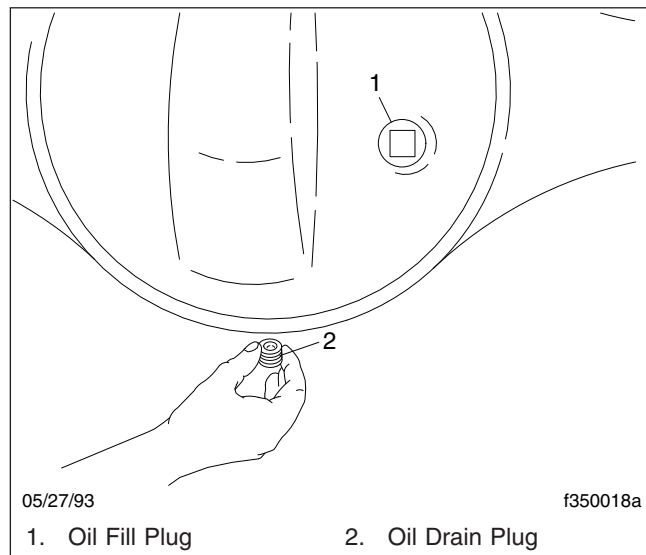

Fig. 4, Dana Spicer Axle Housing Drain and Fill Plugs
2. Clean the fill plug and the area around it. In the axle housing rear cover, remove the plug from the oil fill hole (or standpipe, if installed in the oil fill hole); see **Fig. 4**.
3. Place a drain pan under the rear axle drain plug; see **Fig. 4**. Drain the oil at normal operating temperature, 150°F to 200°F (65°C to 93°C). At this temperature, the oil will run more freely and ensure that the axle is flushed.